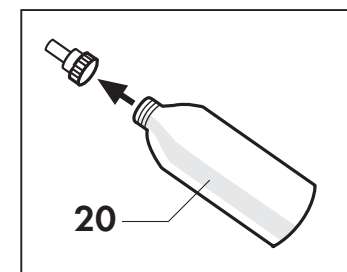

Fig. 2
Unscrew the cap on the bottle (20) that is supplied with the equipment; fill the bottle with water; close the bottle again using the cap provided. (Fig. 2)